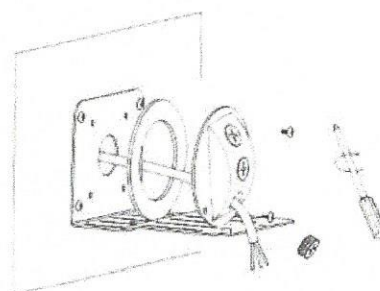

Figure 15
4.Pass wires through rubber ring and junction box, align with holes and lock junction box. (Figure 15)